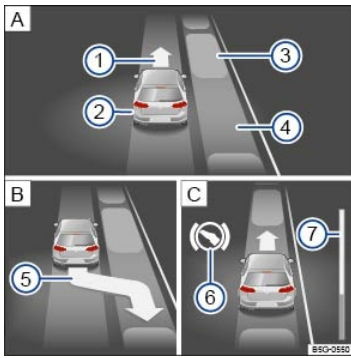
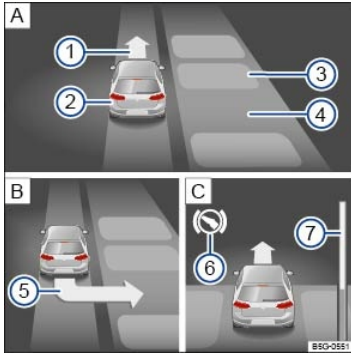

Fig. 179 In the instrument cluster display: Parallel parking. Searching for a parking space, positioning the vehicle for parking, maneuvering.
Fig. 180 In the instrument cluster display: Parking perpendicular to the road. Searching for a parking space, positioning the vehicle for parking, maneuvering.
Key to ⇒ Fig. 179 and ⇒ Fig. 180 :
The progress bar ⇒ Fig. 179⑦ or ⇒ Fig. 180⑦ in the instrument cluster display shows the relative remaining distance using symbols. The higher the progress bar the longer the remaining distance. When driving forward, the progress level moves up; when driving in reverse, it moves down.